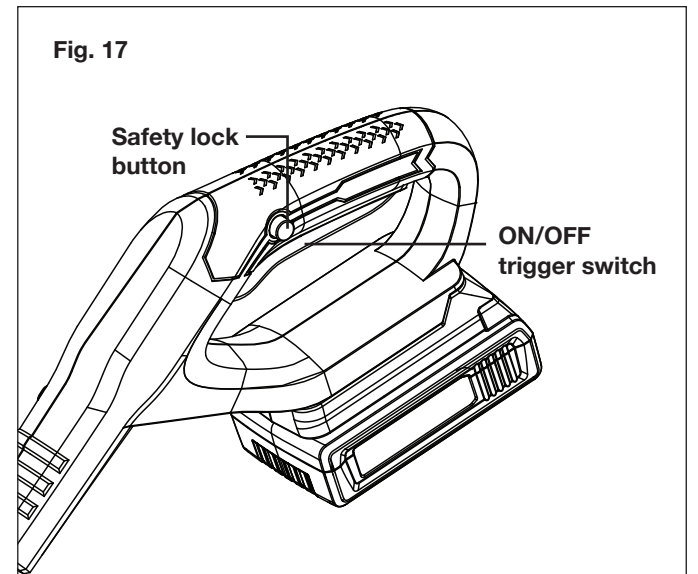

Fig. 17
2. To turn the grass trimmer + edger ON, press and hold the safety lock button with your thumb, then squeeze the ON/OFF trigger switch with your fingers. Once the machine powers on, you can release the safety button and proceed with operation (Fig. 17).
3. To switch OFF, release the ON/OFF trigger switch (Fig. 17).